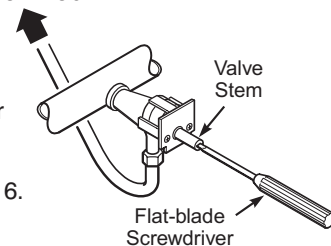

Figure 6
3. Insert a small flat-blade screwdriver into the valve stem. See Figure 6.